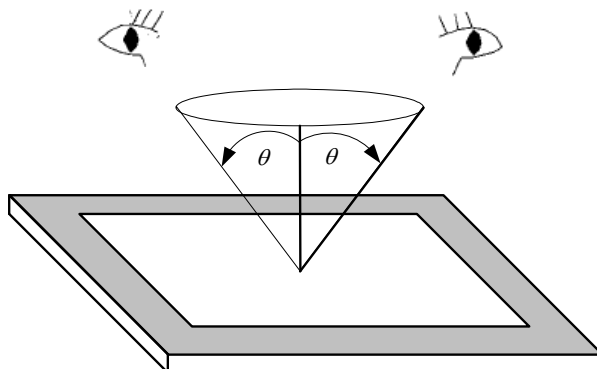

Fig 11.1
- The viewing zone is defined with angle  $\theta$  shown in Fig. 11.1 The inspection should be performed within  $45^\circ$  when display is shut down. The inspection should be performed within  $5^\circ$  when display is power on.